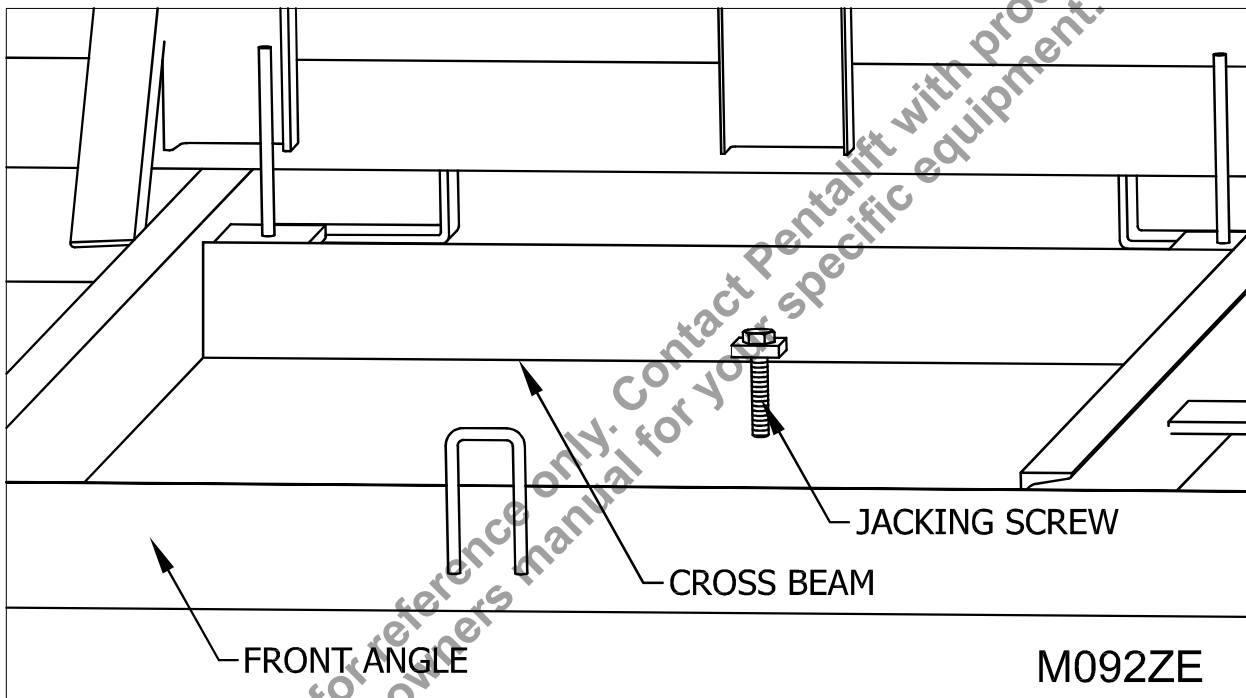

Figure 51: Jacking Screw
1. ___ Jacking screw(s). (See "Figure 51: Jacking Screw" on page 40)